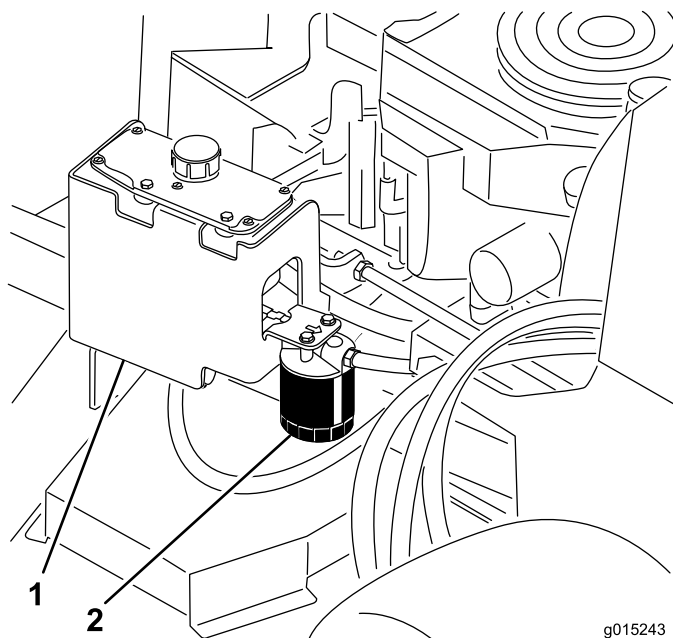

Figure 76
3. Locate the filter and place drain pan under filter (Figure 76).